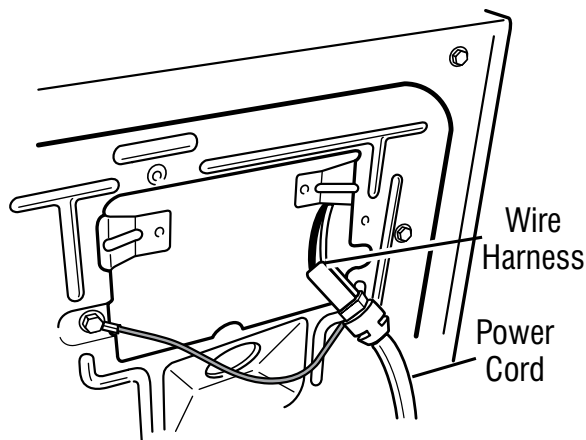
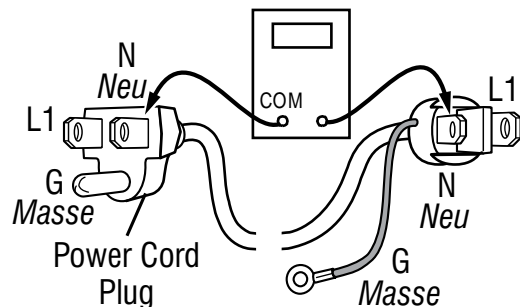

Figure 4 - Power cord-to-wire harness connection for gas dryer.
Figure 5 - Power cord terminals, gas dryer.
3. Check that the power cord is firmly connected to the dryer's wire harness. See figure 4.
5. With an ohmmeter, check for continuity between the neutral (N) terminal of the plug and J8-3 (white wire) on the ACU. The left-hand side of figure 5 shows the position of the neutral terminal (N) on the power cord plug. Also see figure 1, page 3-7.
- If there is no continuity, disconnect the white wire of the main harness from the power cord at the location illustrated in figure 4. Test the continuity of the power cord neutral wire as illustrated in figure 5. If an open circuit is found, replace the power cord. Otherwise, go to step 6.
- If there is no continuity, check the continuity of the power cord in a similar way to that illustrated in figure 5, but for power cord's L1 wire.